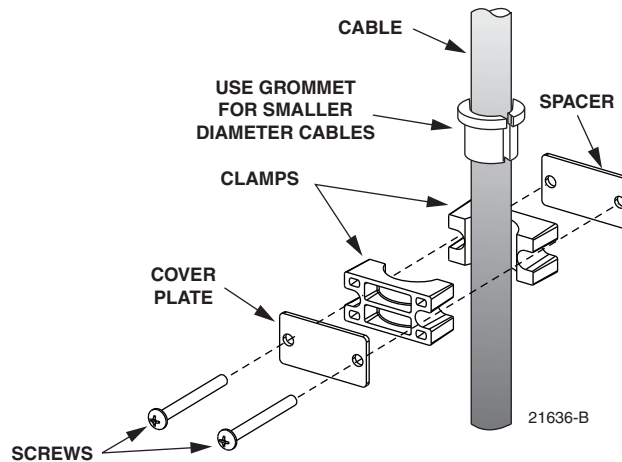

Figure 18. Cable Clamp Assembly
9. Assemble the two cable clamps (and grommets if required) on the cable as shown in Figure 18.